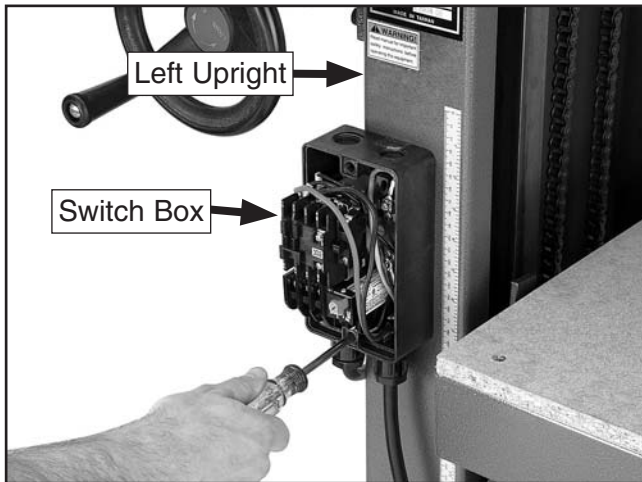

Figure 26. Switch box mounting.
20. Remove the plastic screws that secure the switch box cover, then use the pre-installed screws to attach the switch box to the left upright, as shown in **Figure 26**.